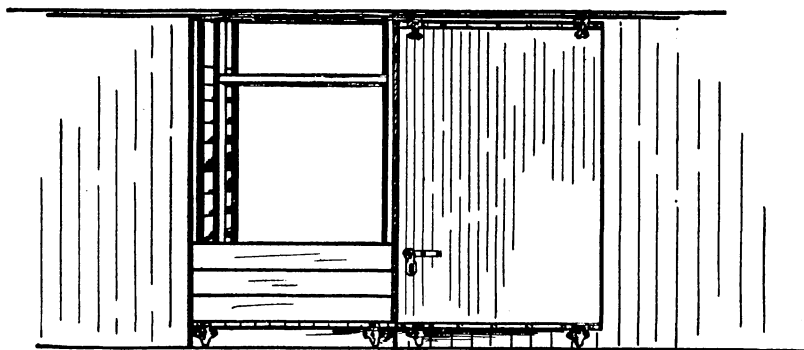

FIG. 14.—Wind boards to keep out cold winds.
21. Nail the 6-foot lengths of 1-inch boards across each door, making a solid partition from the door sill up to 24 inches (Fig. 14). Before the car is shipped it is well to fill the space between the partition and the car door with sawdust or other filler when it is not necessary to open the car door in transit. This will tend to keep out cold winds.